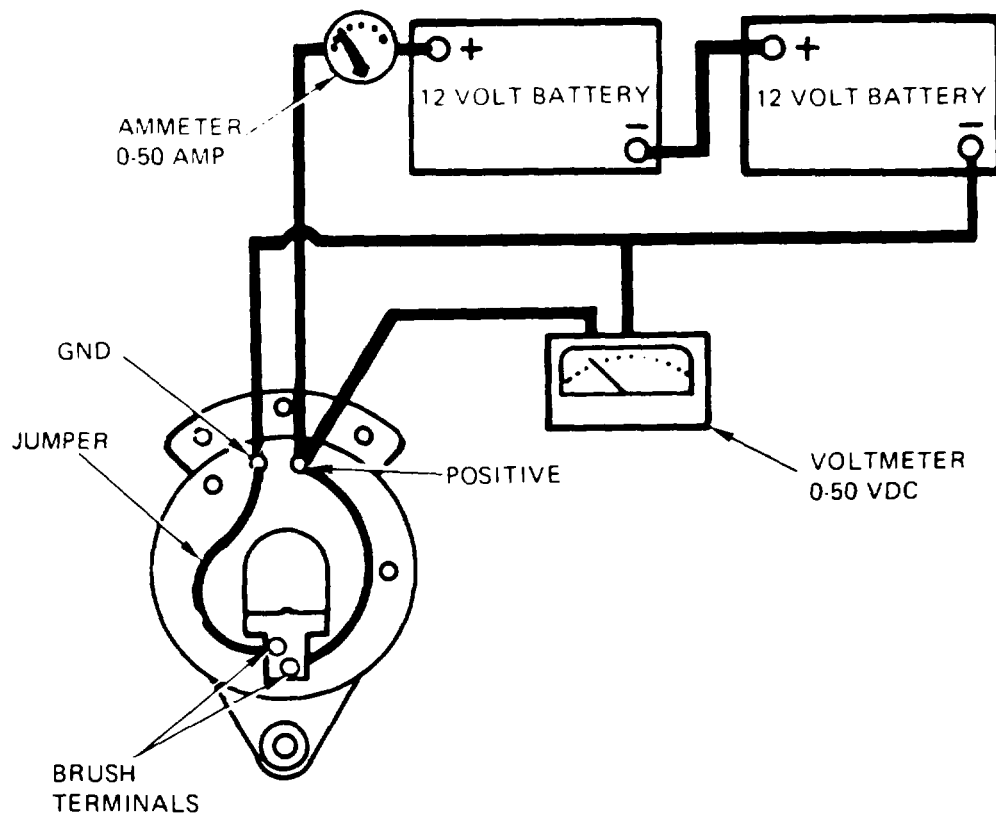

Figure 3-12. Faulty Voltage Regulator Circuit Test
- (d) Install a jumper from the GND terminal to brush terminal as shown in figure 3-12.
- (e) Install alternator in test circuit as shown in figure 3-12.
- (i) If the regulator is faulty, remove the jumper (figure 3-12) and install a new regulator and cover assembly using the tagged leads on the old cover assembly as a guide when making connections.
- (8) Conduct field current test as follows: